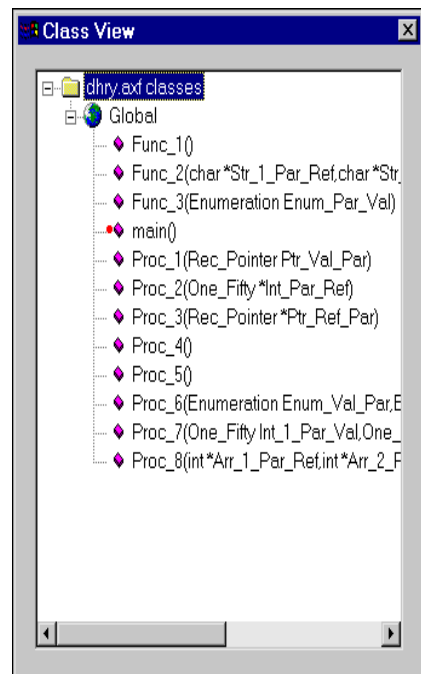

Figure 3-22 The Class View window
1. Select **View Classes** from the **C++** menu, or click on the **View Classes** button in the toolbar. A Class View window is displayed that shows the class hierarchy of your C++ program. Figure 3-22 shows an example of the Class View window.